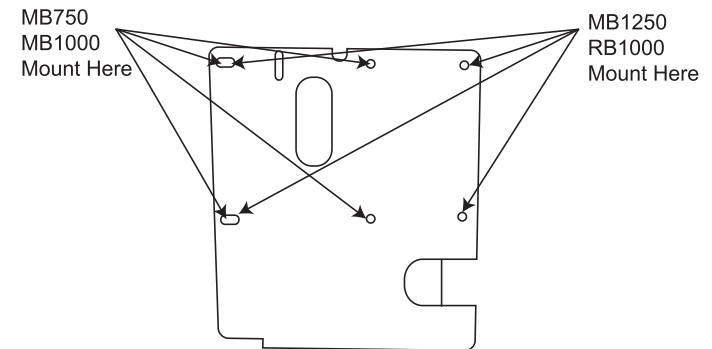
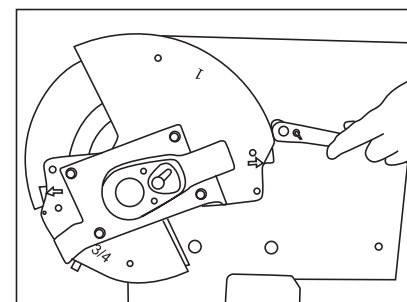

Fig 1
Fig 2
2. To Install EMT MBCCH-750/MBCCH-1000 bending shoe (1), remove bending shoe head and mounting hardware from box and hold mount plate with conduit slide (5) in the bottom right corner. Attach bending shoe (1) to square mount plate on BENDstation™ Workstation or BENDdolly™ Bending Platform. When looking at the BENDstation™ Workstation or BENDdolly™ Bending Platform from the side (flat side of mount plate facing you). Use four left bolt holes to mount MBCCH-750/MBCCH-1000 and use four outer most bolt holes to mount the MBCCH-1250/RBCCH-1000 bending shoe to platform frame (Fig. 1). Attach shoe by using supplied hardware and tighten securely with ratchet and wrench (Fig. 2). Bending shoe (1) may have to be manually turned to gain access to all four bolt holes.